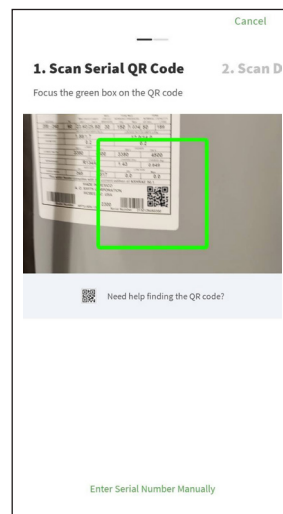

Figure 139 - Scan Serial QR Code
- 3 Allow the app to access your camera when prompted. Use the camera on your device to scan the Serial Number QR Code located on the rating plate (Figure 139).